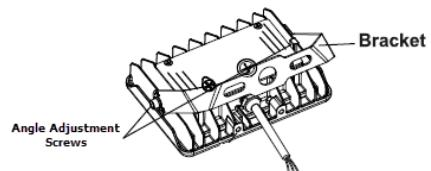

Figure 3
- 8:** Loosen (2) angle adjustment screws on both sides of fixture. (5mm) (Figure 3)